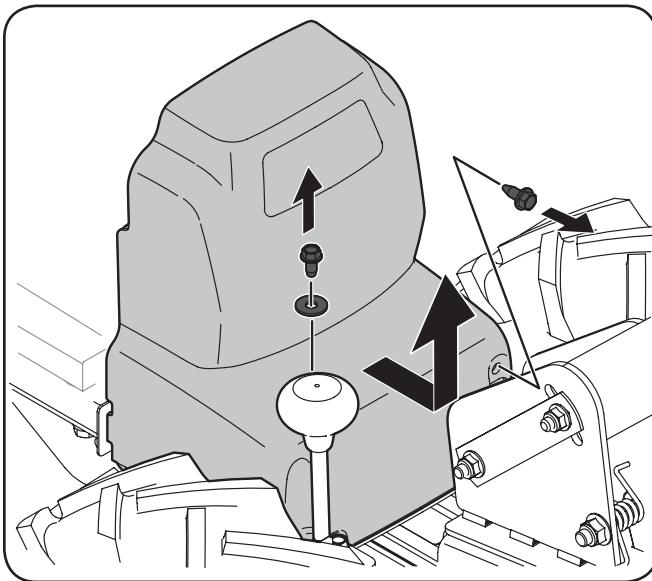

Figure 7-1
2. Remove the belt cover as seen in Figure 7-1, by first removing the two hex washer screws and one flat washer. Lift the belt cover up and away from the tiller and set in a safe location until reinstallation.